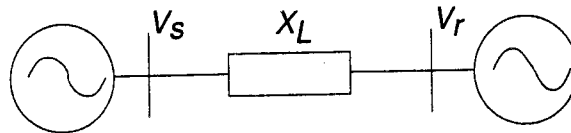

Figure 5.1: A two-area power system
- (c) Figure 5.1 shows a simple model of an interconnected power system. Voltages at the two ends are $V_s \angle \delta$ pu and $V_r \angle 0$ p.u. The impedance of the line is purely reactive in nature and is expressed as X_L p.u. The system is transferring power P with about 29% capacity margin $\left(\frac{P_{max} - P}{P_{max}} \cdot 100\% \right)$. If the line is series compensated with a capacitor $X_C = kX_L$. What degree of compensation k is needed to improve this margin to 40% for the same power transfer? [7]